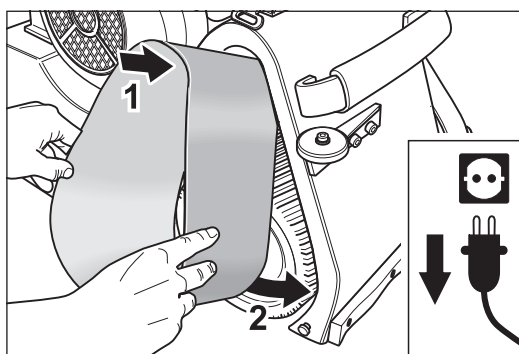
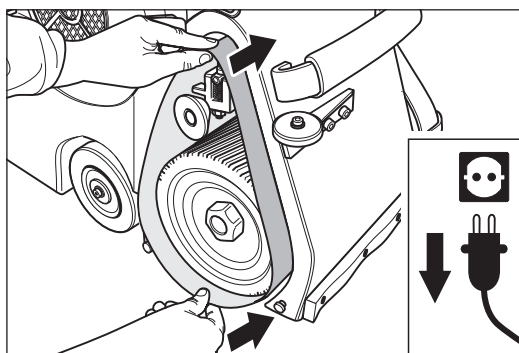

Fig. 36 Position the new sanding belt on the tensioning roller of the drive unit.
Fig. 37 Push the sanding belt far enough over the sanding drum and tensioning roller so that the sanding drum is fully covered by the sanding belt.
- 6 Position the new sanding belt on the tensioning roller of the drive unit (Fig. 36) and push it over the tensioning roller and the sanding drum (Fig. 37).